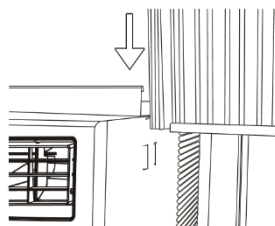

Figure 2
- b. Slide the free end "T" section of the panel directly into the cabinet as shown in Figure 2. Slide the panel down. Be sure to leave enough space to slip the top and bottom of the frame into the rails on the cabinet.